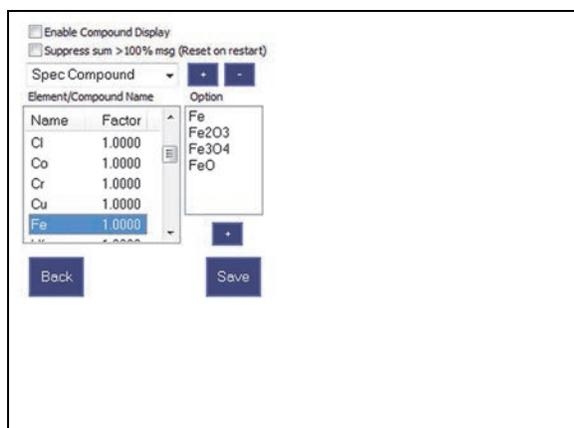

Figure 1-50 Adding a compound
- In the Compound pane, click the down arrow and select the new template (see Figure 1-50 on page 39).